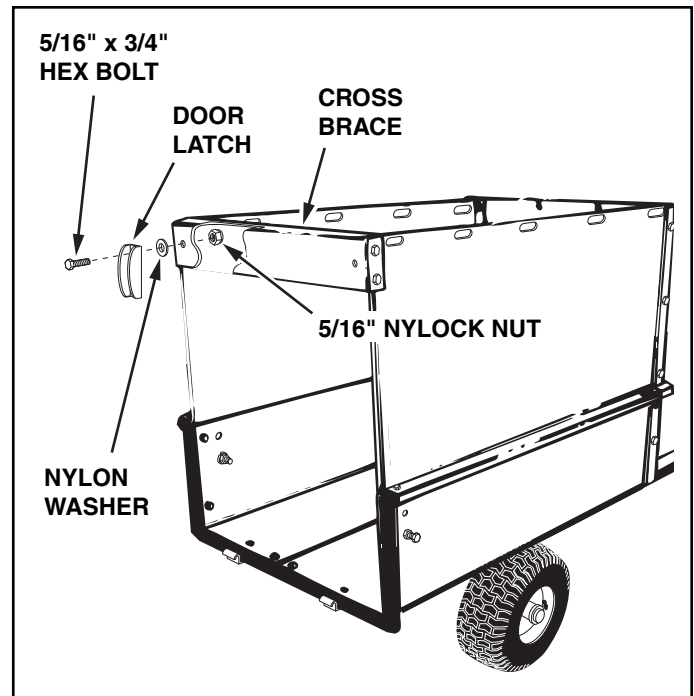

FIGURE 13
- Assemble a door latch at each end of the cross brace using a 5/16" x 3/4" hex bolt, a nylon washer and a 5/16" nylock nut. Place the nylon washer between the door latch and cross brace. **Tighten** so that latch is snug but will still rotate. See figure 13.